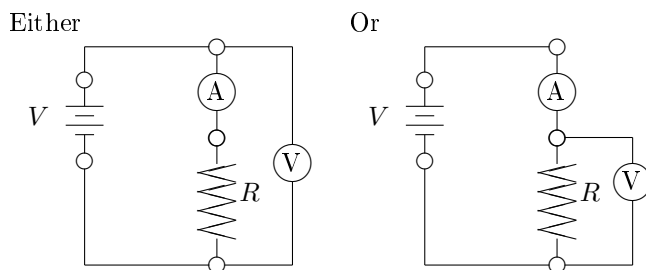

Figure 11.2.1: Determining Ohm's Law with a single resistor.
You should consider (one at a time, of course) three voltage sources: a “good” dry-cell battery, a “bad” dry-cell battery, and a dc-power supply. To determine the characteristics of each battery, you will need to build the circuit in Figure 11.2.1 using some resistor, and then replace the resistor with 10 different resistance values, in order to vary the amount of current drawn. Measure the current (from the ammeter \textcircled{A}) and the terminal voltage (from the voltmeter \textcircled{V}) for each of these resistors. Figure out how the terminal voltage is related to the current drawn by graphing the voltage V versus the current I and considering the equation of the best trendline.
Figure 11.2.1 shows two configurations of ammeter and voltmeter. The small circles are the connections for the wires. In this lab, we are trying to measure the current through the resistor and the voltage across the resistor. On the left, the ammeter is in series with the resistor, but the voltmeter is not in parallel with the resistor. (I is correct, but V is too large.) On the right, the voltmeter is in parallel with the resistor, but the ammeter is not in series with the resistor. (V is correct, but I is too large.) You will be making a mistake either way, but hopefully neither is *too wrong*. For only one of your resistors, measure the data both ways and see how large the effect is. (It is incorrect to use the voltage from one circuit and the current from the other.)
Please note Section 11.2 regarding the equipment as arranged in Figure 11.2.1. For one of your resistors arranged according to one of the circuits in Figure 11.2.1, measure the current (from the ammeter \textcircled{A}) for several arbitrary and somewhat-evenly-spaced voltage values (as measured from \textcircled{V}). Verify Ohm's Law by graphing the voltage V versus the current I and considering the equation of the best trendline. Repeat this for the second resistor. For at least one of your resistors, repeat this for the other configuration in Figure 11.2.1. Answer the first set of questions in Exercises 11.4.
3. Did the two configurations in Figure 11.2.1 give different values?